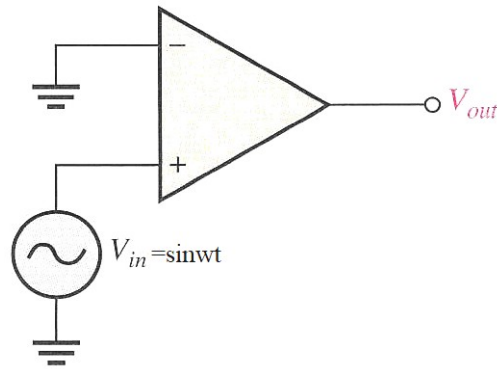

Fig.30
**Example1:** Draw the output showing its proper relationship to the input signal of the comparator circuit shown in Fig.30. Assume the maximum output levels of the op-amp are  $\pm 12\text{V}$ .